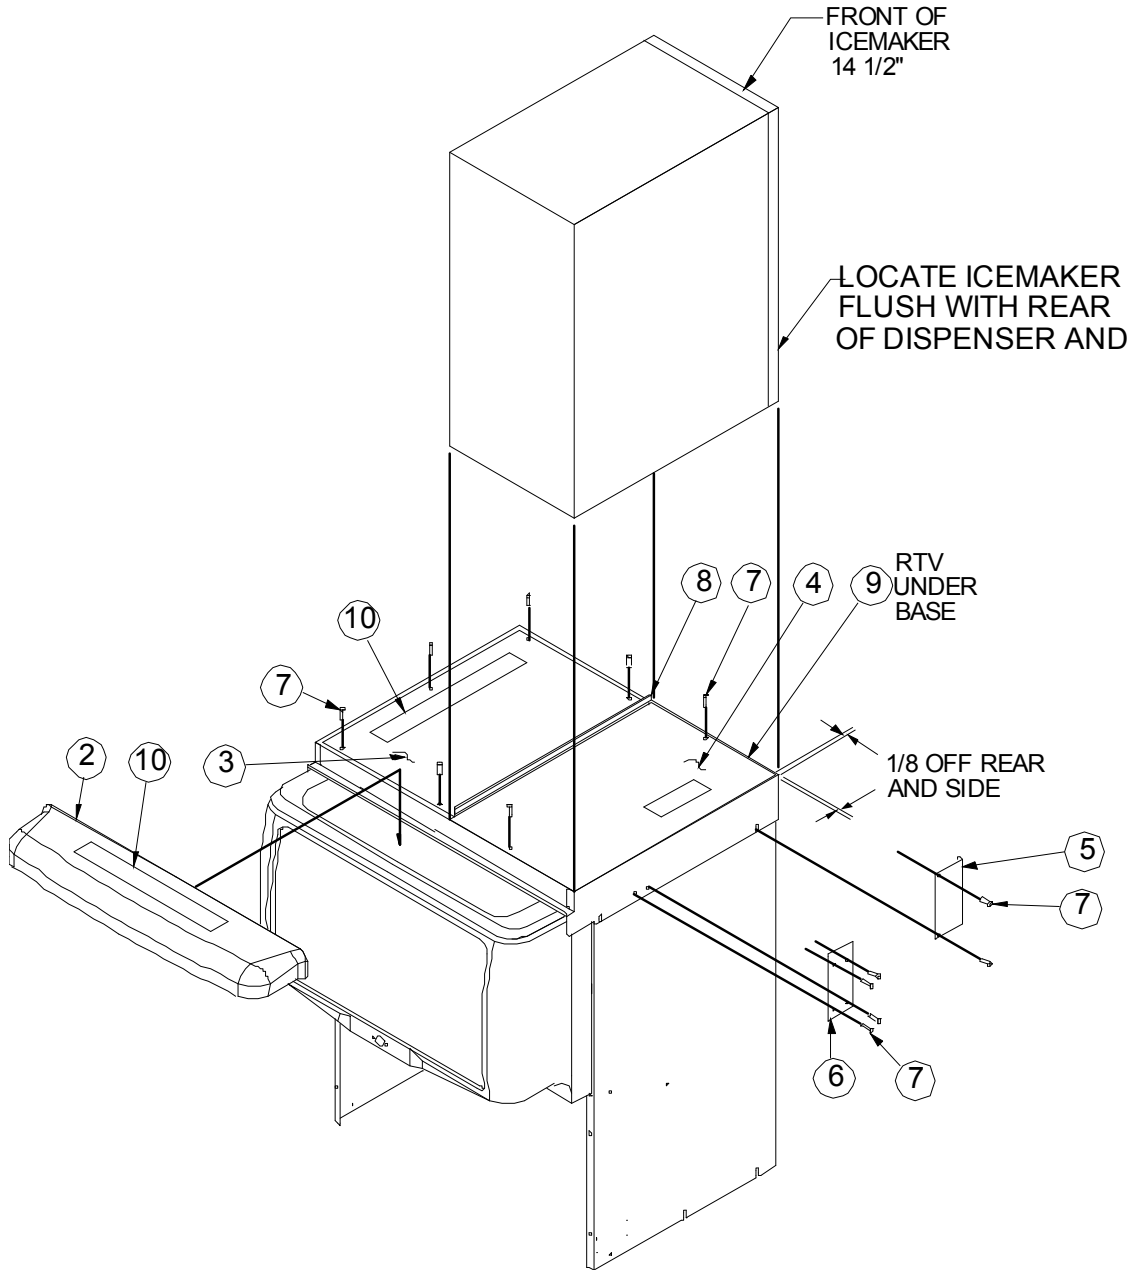

Figure 3. Wilshire WCC500/700 14-1/2 Inch Dispenser Assembly
3. Install ice baffle (item 13) onto Adapter lid (item 1). See Figure 3.
### WILSHIRE WCC 500/700 14-1/2- INCH ICE MAKER (SEE FIGURE 3).